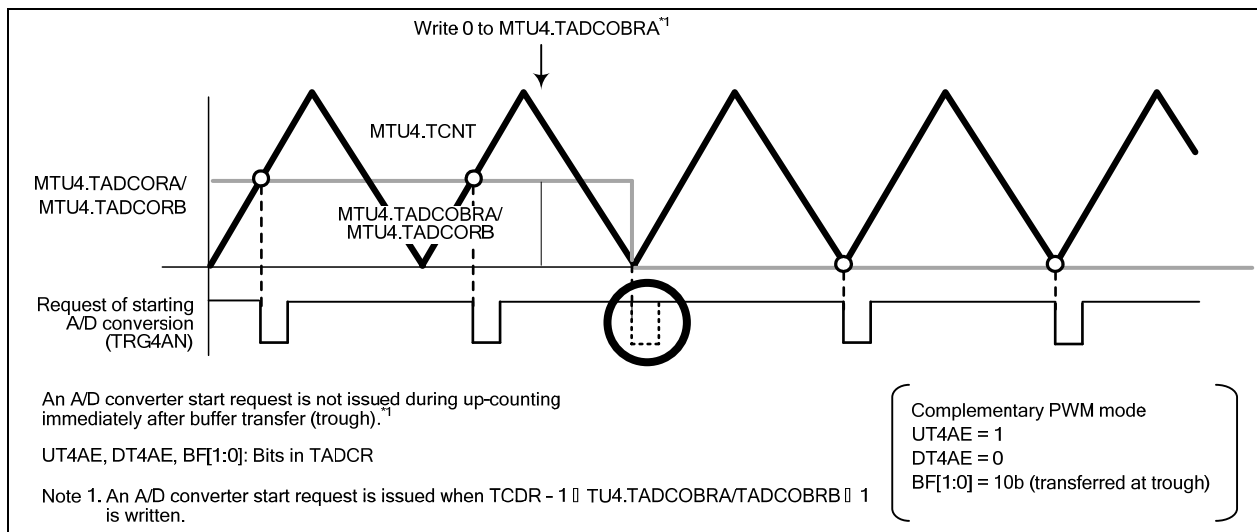

Figure 18.125 A/D Converter Start Request When 0 is Written to MTU4.TADCOBRA
- When MTUn.TADCOBRA/MTUn.TADCOBRB is set to 0 and the UT4AE or UT4BE bit in MTUn.TADCR is set to 1, and the result is transfer to the buffer when counting by MTUn.TCNT reaches its trough, an A/D converter start request is not generated during the up-counting period immediately following the transfer (Figure 18.125).